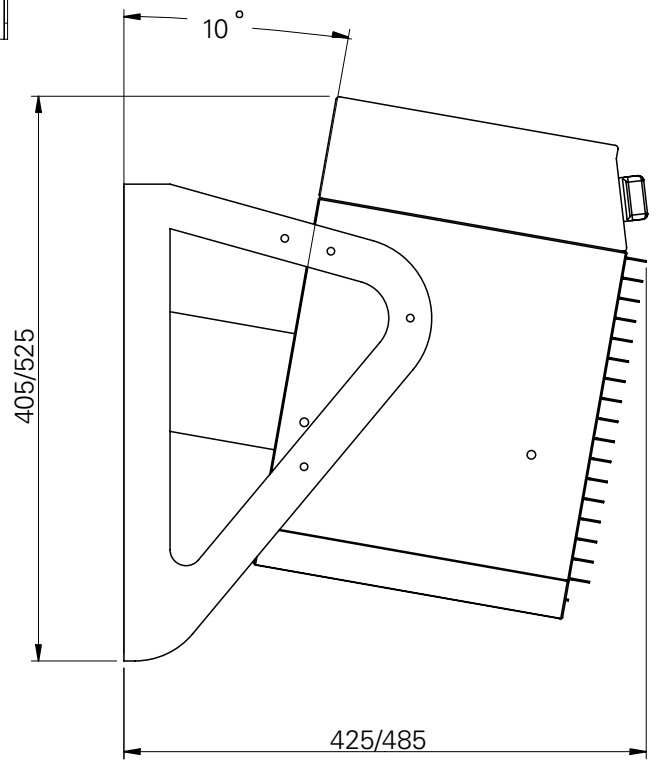

Fig. 3
2. Attach the brackets on to the fan heater according to fig. 3 on page 3 with three screws on each side.